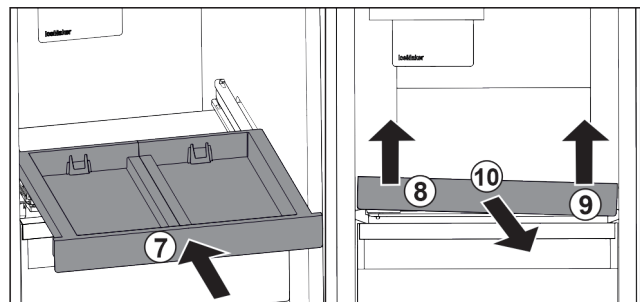

Fig. 25
- ▶ Slide in the pull-out board. Fig. 25 (7)
- ▶ Lift the pull-out board at the front left. Fig. 25 (8)
- ▶ Lift the pull-out board at the front right. Fig. 25 (9)
- ▶ Take out the pull-out board to the front. Fig. 25 (10)